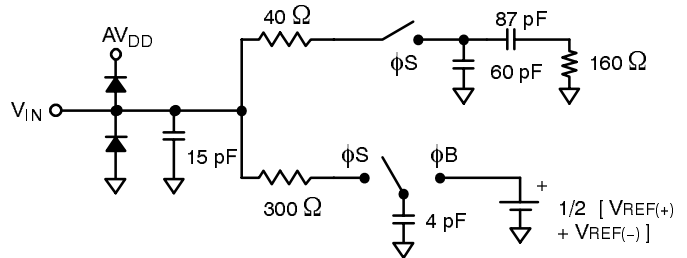

Figure 9. Analog Input Equivalent Circuit
- ³ See V_{IN} input equivalent circuit (see Figure 9).
The MP8795's performance is optimized by using analog input circuitry that is capable of driving the A_{IN} input. Figure 9 shows the equivalent circuit for A_{IN} .